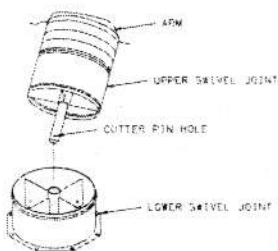

FIG. 1
2. Mount the hose assembly to the unit. Insert the shaft into the lower swivel joint. The flexible hose must be pulled back. Insert the cotter pin (supplied) by reaching through both swivel joints to the underside of the lower swivel joint (fig. 1)